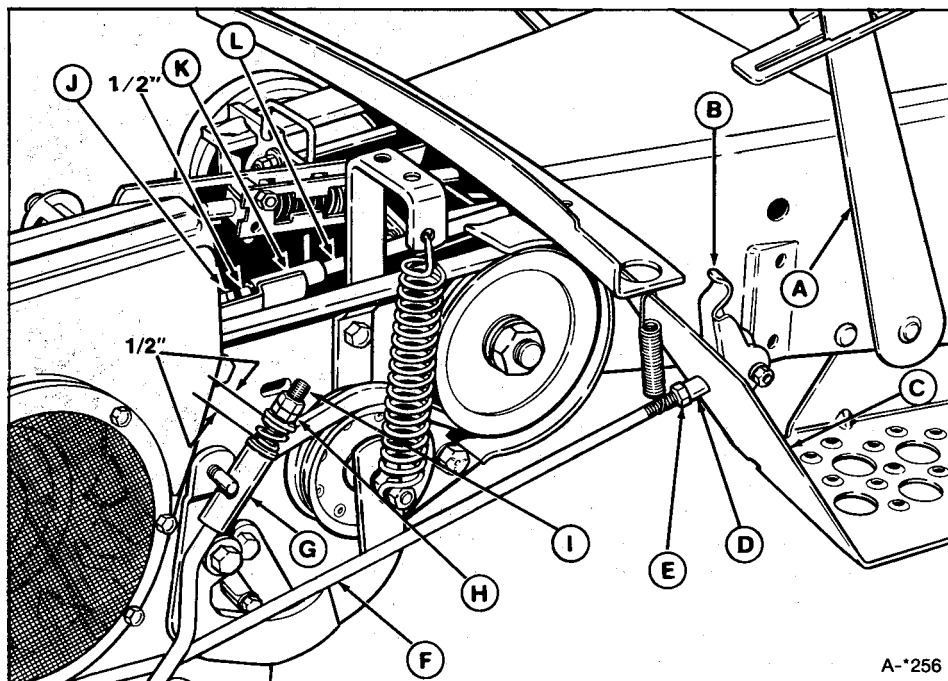

Figure 22. Brake & Clutch Adjustments - Hydrostatic
1. To adjust parking brake, loosen the jam nut (E, figure 22) at parking brake rod end. Rotate the parking brake handle (B) clockwise until it is tight and pulled up against footrest as shown. Operate the brake handle to see if it is too loose or too tight. It should be tight against footrest when set but not too tight to operate. When proper adjustment is made, tighten the jam nut.
2. To adjust the foot brake, engage the parking brake. Adjust jam nuts (H) on end of foot brake rod to provide 1/2 inch (12.7 mm) spring length between washers. Depress the pedal to engage